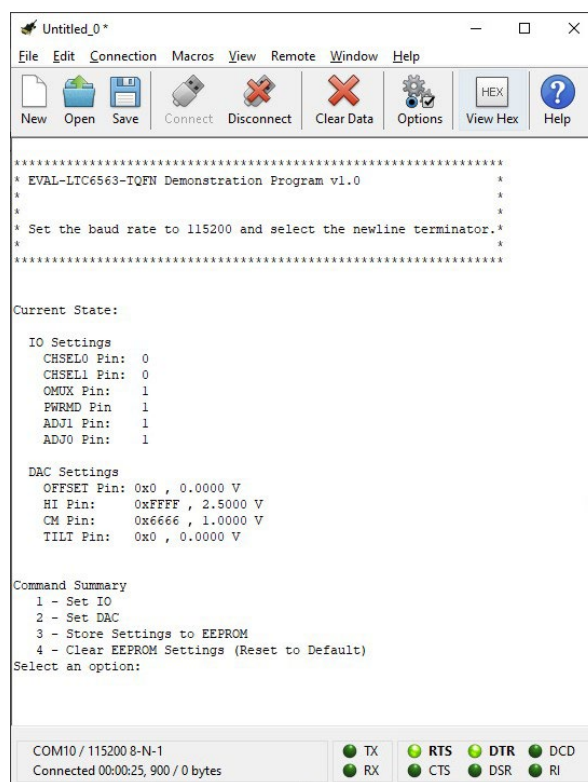

Figure 7. Coolterm Screen after Successful Linkage to SDP-K1
4. Go to the Default Factory hardware Settings listed in Figure 7 (if not already):
- c. In Coolterm, click Connect, Disconnect, Connect in succession until the following screen is displayed. The register values may differ on your setup from the values shown in Figure 7.